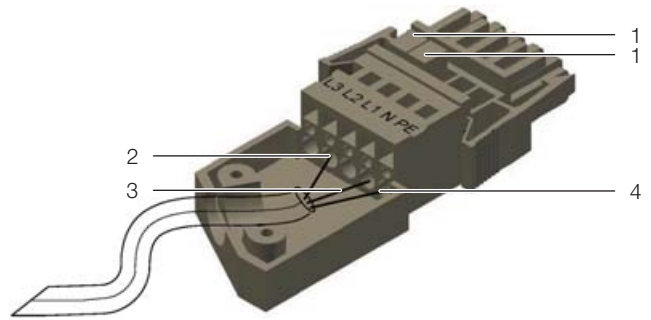

Fig. 37: Schematic diagram of the connector with strain relief housing
- Bypass the phase connections on the connector using the two included bridges (Fig. 37, item 1). Place one bridge between phase conductors L1 and L2 and one bridge between phase conductors L2 and L3.